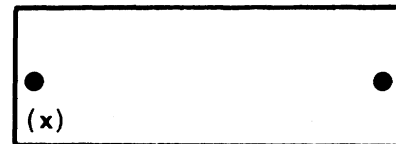

Figure 7. Location of Identification Letter(s) on Identification Plate
2. Magnetos in which the block has been replaced must be identified by stamping the letter "R" in the lower left corner of the identification plate, below the drive screw securing the plate to the housing (See figure 7).
3. Magnetos in which the block has been inspected, but not replaced, must be identified by stamping the letter "I" in the location indicated in figure 7.